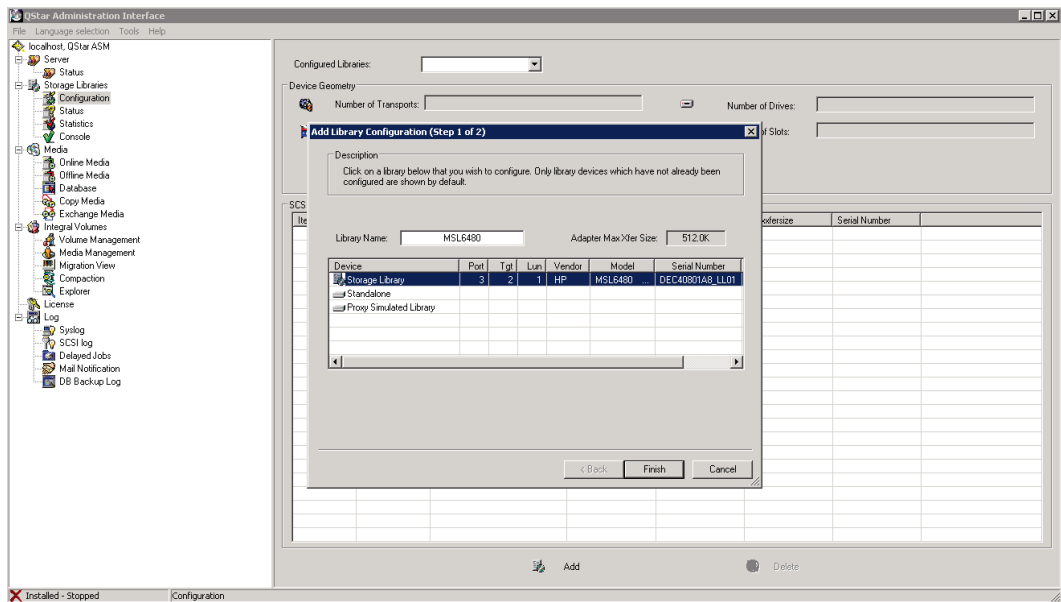

Figure 13. Adding a library to QStar ASM
2. Click on **Add**, which will then display all libraries connected to the system which are available for configuration. You should see the HPE StoreEver Tape Library and tape drives that you claimed during the installation process. See **figure 13** as an example.